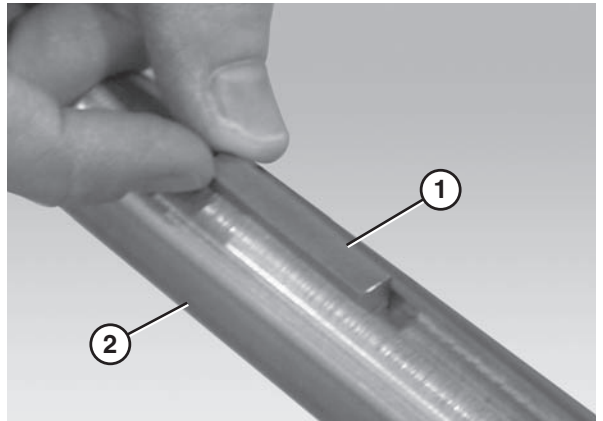

Figure 68
5. Remove the drive spindle key (Figure 68, item 1) from the drive spindle keyway (Figure 68, item 2).